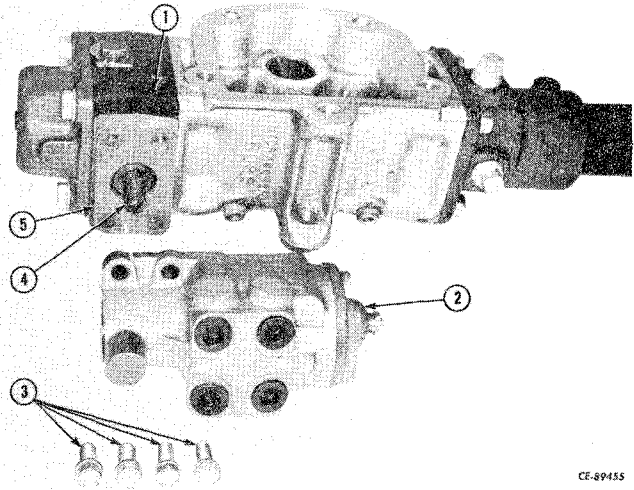

Figure 8-11
Remove cap screws (3, Fig. 8-11) that secure valve (2) to actuator housing (1) and remove valve and gasket (5). Discard gasket. Remove actuator lever (4).